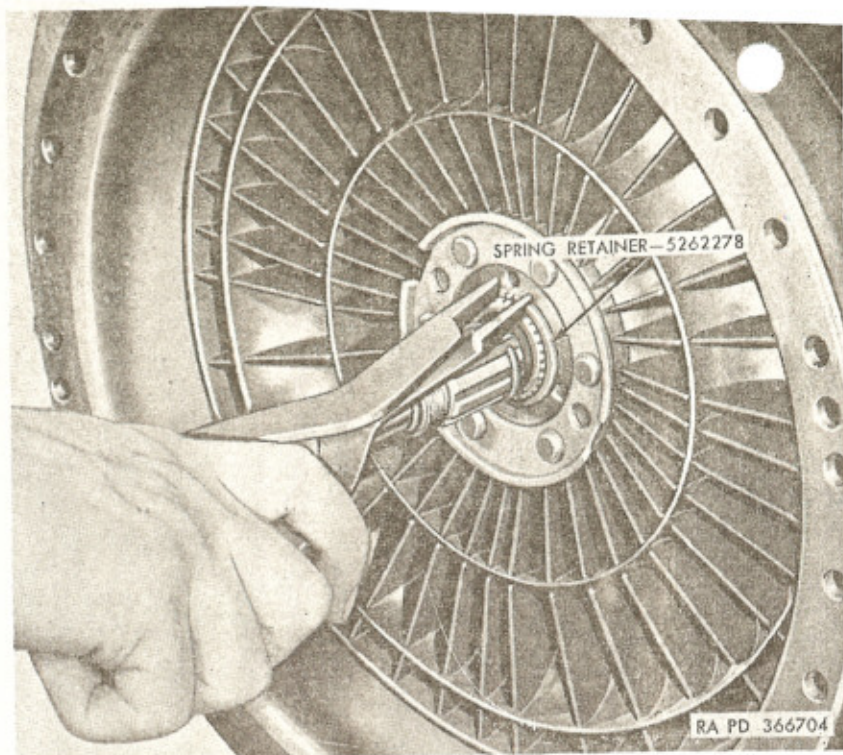

Figure 15. Removing or installing driving torus spring retainer.
- Pull driven torus assembly (D) from input shaft. If torus assembly sticks, lightly strike end of input shaft with plastic hammer.
- Remove torus check valve spring (E) and torus check valve (F) from input shaft.
- Remove spring retainer (G) with snap ring pliers (fig. 15). Remove driving torus assembly (H) and torus cover assembly (J) together by sharply pulling straight out on cover.